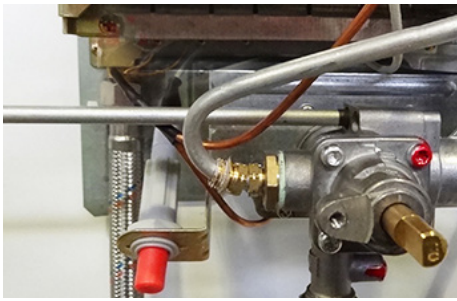

Fig. 14
- Remove the 4 screws of the gas valve (Fig. 14)